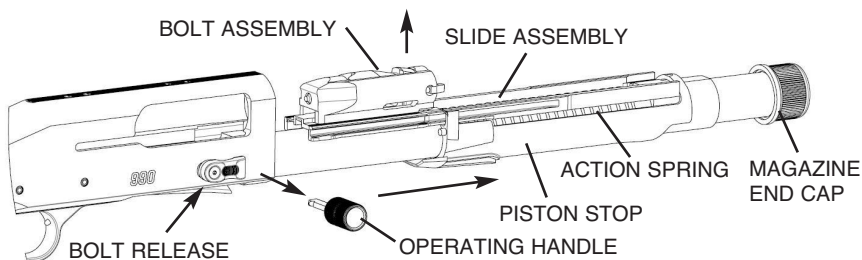

Figure 13
1. Pull the operating handle straight out of the bolt assembly (Figure 13).
Using a solvent, clean all components of the action including the bolt and slide assemblies (Figure 13) to remove accumulated residue. Using a rag, remove any deposits from the piston stop. Action parts will remain cleaner, longer, if lubrication is used sparingly.